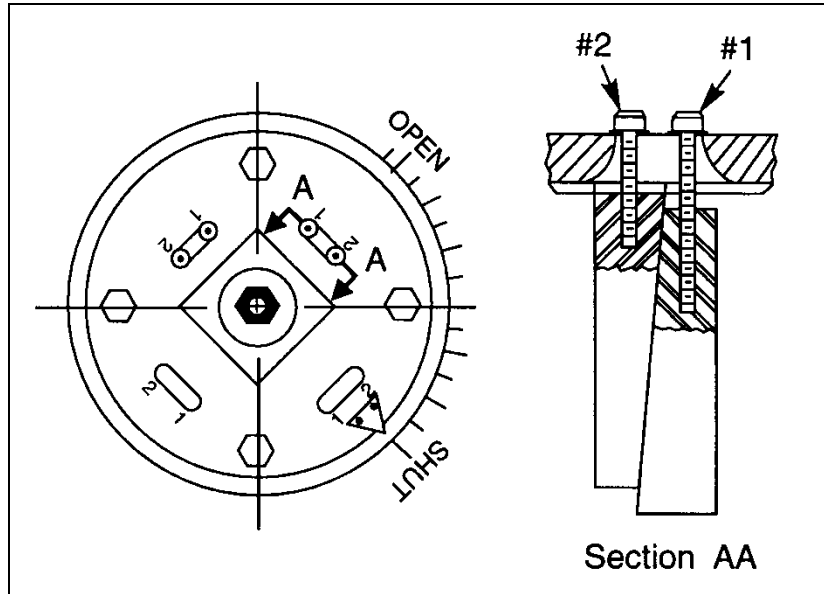

Figure 2 - Actuator Lockscrews
1. Loosen the two sets of lockscrews #1 and #2 on the top of the actuator as shown in Figure 2. Loosen lockscrews #1 about 6 to 8 turns; loosen lockscrews #2 about 3 turns. Tap both lockscrews #1 with a soft hammer to loosen the keys.